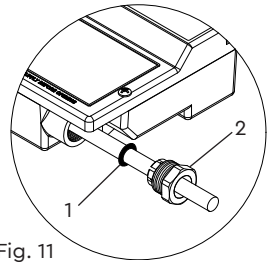

Fig. 11
To enable correct assembly of the cable gland, the 'O'-ring (Fig. 11 item 1) must be placed over the cable before the clamping insert (Fig. 11 item 2) can be tightened as shown.